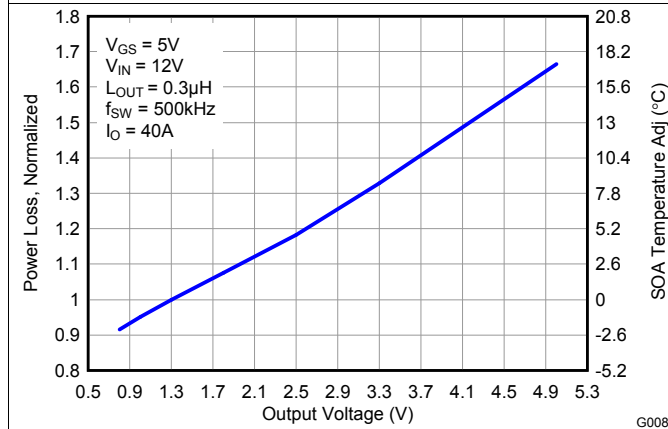

Figure 8. Normalized Power Loss vs Output Voltage
- Normalized power loss for output voltage  $\approx 0.95$  (Figure 8)
- SOA adjustment for output voltage  $\approx -1.3^\circ\text{C}$  (Figure 8)